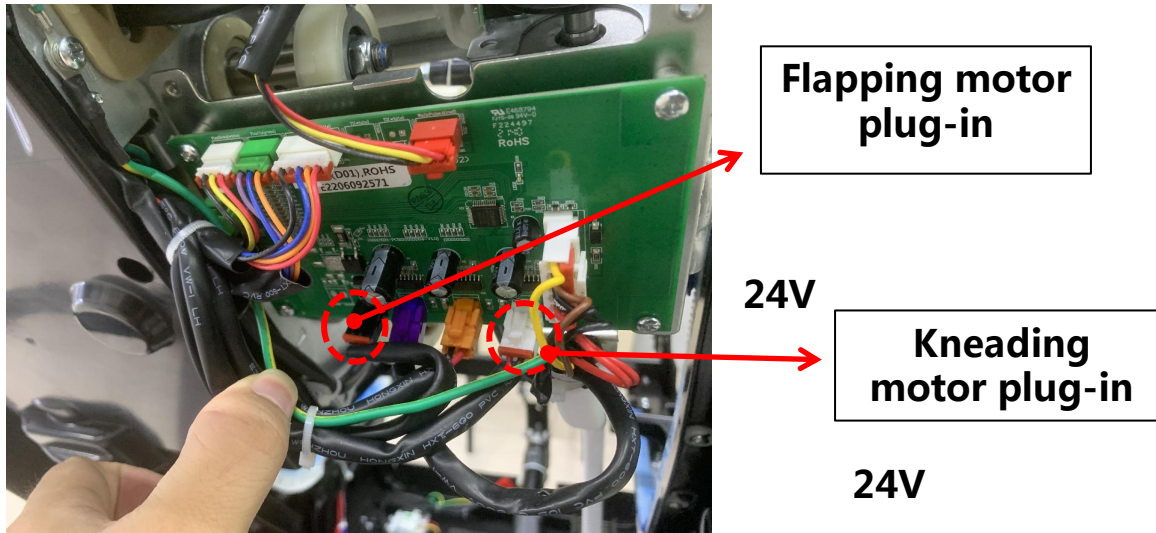

Figure 1
1. First, check whether the wiring harness of the manipulator drive board has poor contact or plug-in falls off (Figure 1);
2. Judging whether the motor is damaged or not, the quality of beating the motor can be judged by the power supply of kneading the motor (Figure 1);